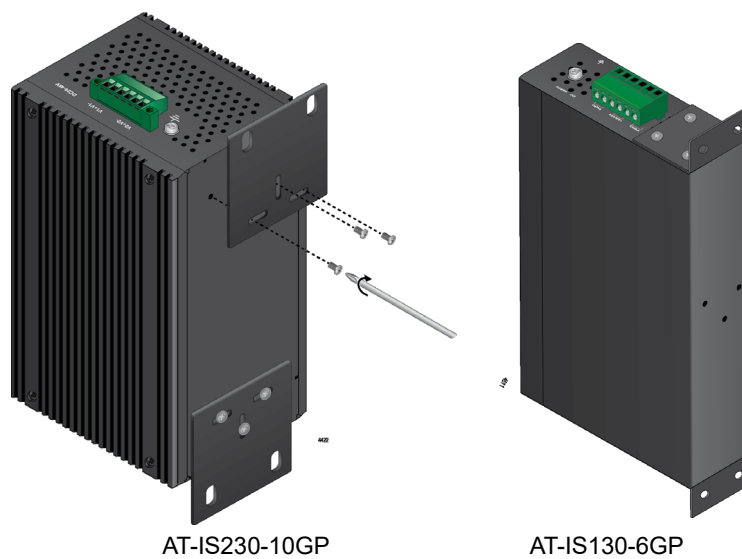

Figure 25. Install Wall Mount Brackets on the Back of the Switch
3. On the AT-IS130-6GP top and bottom panel and the AT-IS230-10GP back panel, align and install the two wall mounting brackets (provided) with the bracket mounting screws (provided). Refer to Figure 25.